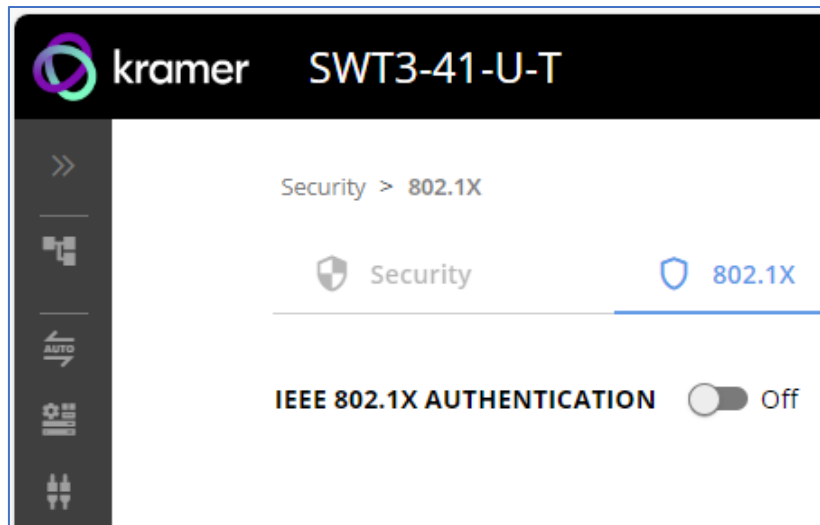

Figure 44: 802.1X Tab
2. Select **802.1X** tab. The 802.1X settings tab appears (see Figure 44).